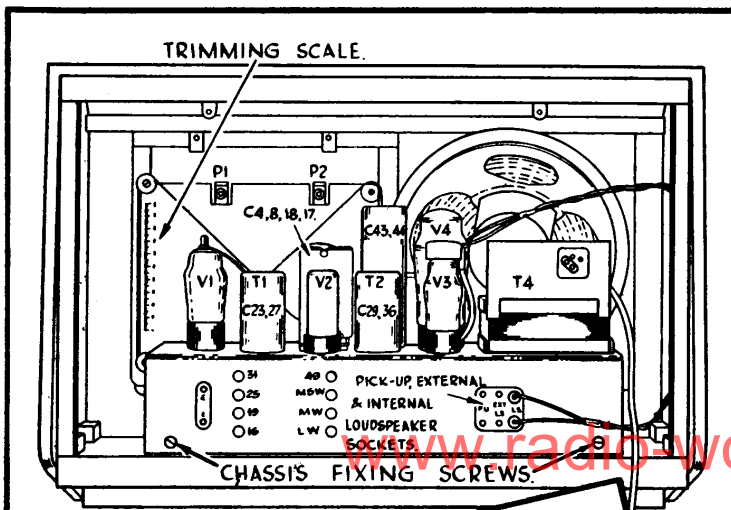

FIG. 1
- 1 The Pye quick release (Patent No. 601920) permits the removal of chassis without turning the cabinet over. See Fig. 1.
- 3 A 100 Division Trimming Scale is printed on the back of the scale reflector plate, see Fig. 1, for use when trimming the receiver outside the cabinet. The top of the pointer carriage serves as an index for the scale. A calibration chart is printed on page 2. When no accurate frequency standard is available the receiver should be calibrated against a reliable broadcasting station operating on a frequency close to that specified in the trimming instructions.